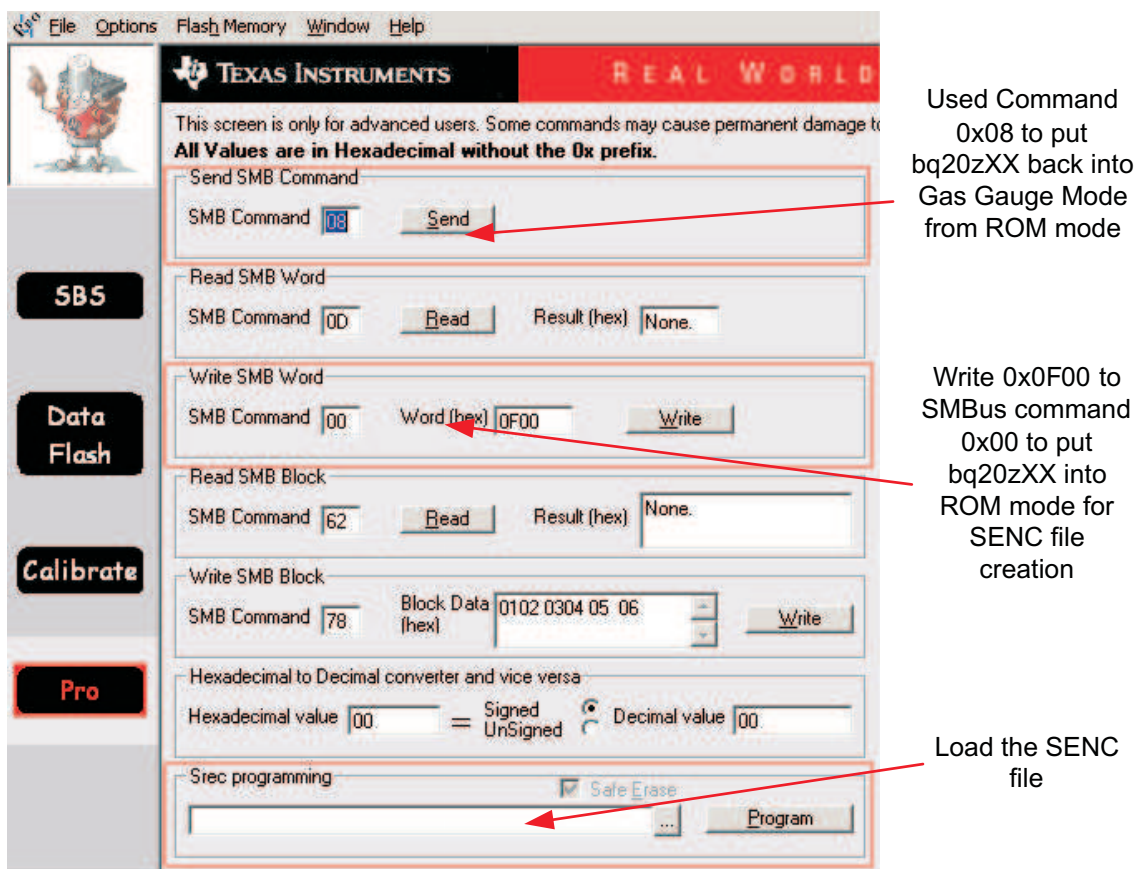

Figure 18. EV Software Pro Screen
4. Ensure that the *Engineering Perfect* battery pack is still connected to the EV2300 and that the EV software for the applicable device is open. Then go to the Pro screen in the EV software as shown in Figure 18.